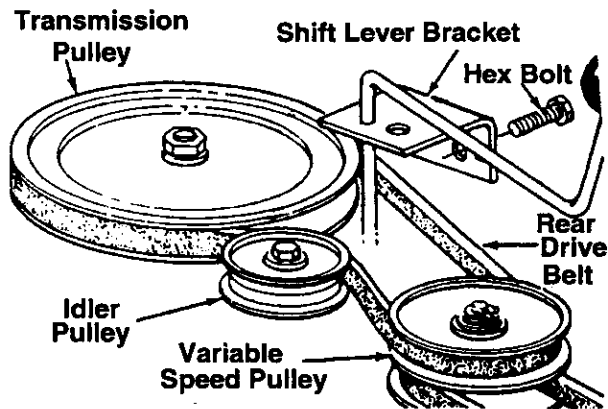

Figure 28
3. Push the idler pulley toward the right side of the unit. Lift the belt over the idler pulley. See Figure 28.
5. Remove the two bolts which hold the shift lever bracket to the frame on the left side of the unit. Swing the bracket toward the right so the belt can be removed from the transmission pulley. See Figure 28.